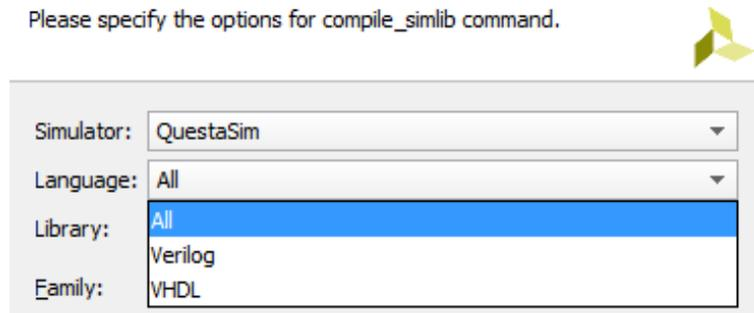

Figure 8-4: Language Selection
- Language:** Compiles libraries for the specified language. If this option is not specified, then the language is set to correspond with the selected simulator (above). For multi-language simulators, both Verilog and VHDL libraries are compiled. See Figure 8-4.